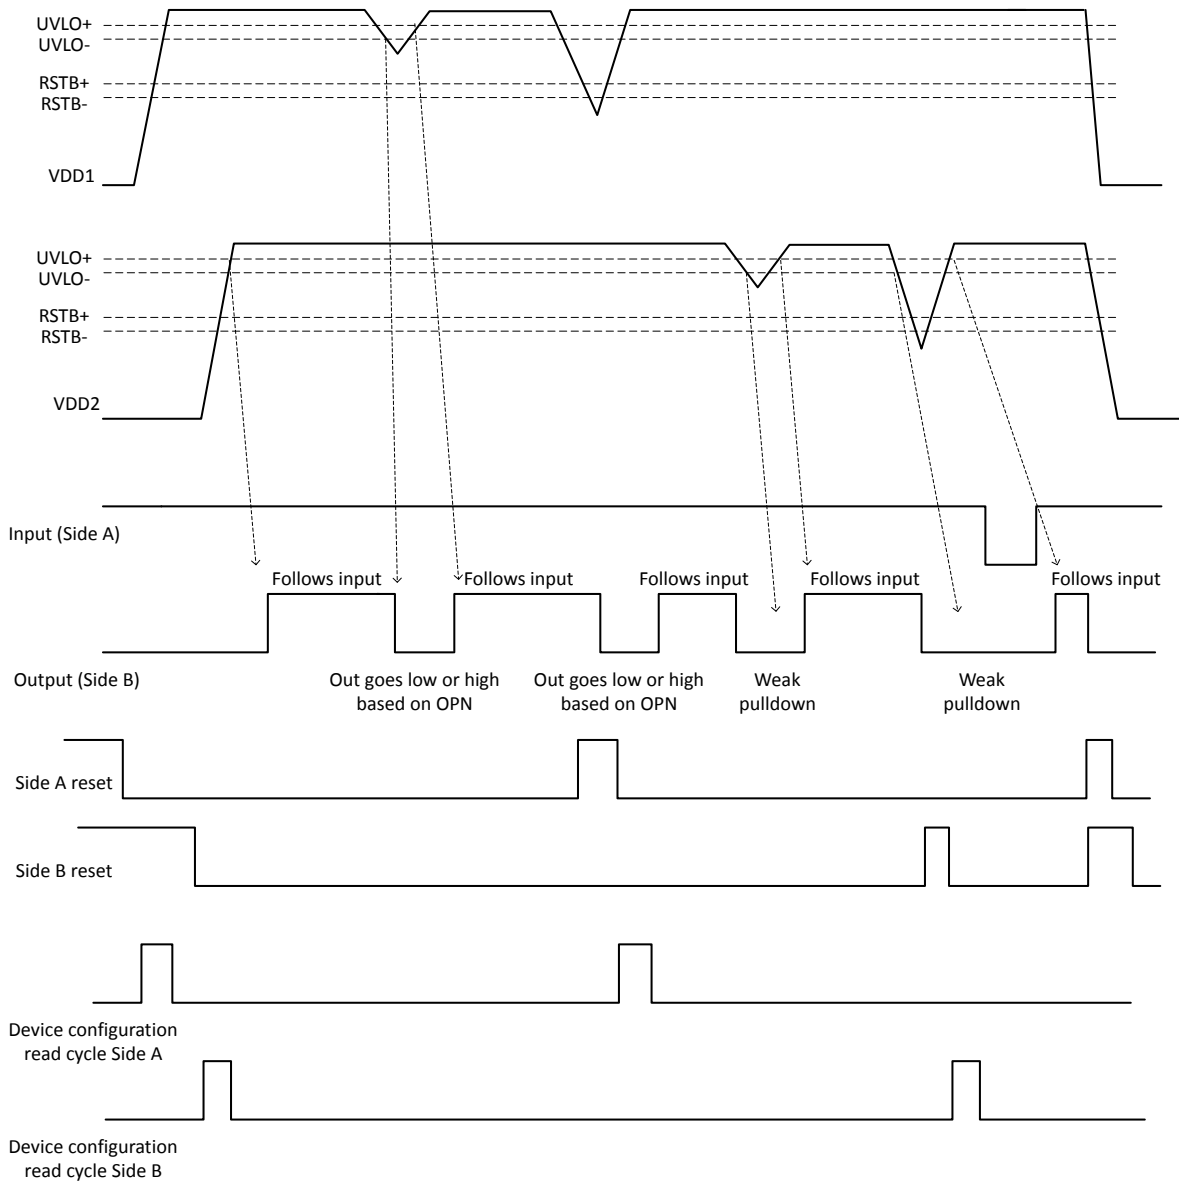

Figure 3.1. Device Behavior during Startup
Device behavior during start-up, normal operation, and shutdown is shown in Figure 3.1 Device Behavior during Startup on page 11, where UVLO+ and UVLO– are the respective positive-going and negative-going thresholds. Refer to the following tables to determine outputs when power supply (VDD) is not present and for logic conditions when enable pins are used.
4. “Powered” state (P) is defined as 2.25 V < VDD < 5.5 V.
5. “Unpowered” state (UP) is defined as VDD < 2.25V.
7. UD =Undetermined. Refer to Figure 3.1 Device Behavior during Startup on page 11, the start-up time from unpowered state, below 1.7 V (RSTb) threshold to powered state, is 0.3 ms. If VDDO only dips below 2.1 V (VDDOK level in Figure 3.1) but stays above RSTb level, the start-up time is 1 μs.
3. "Powered" state (P) is defined as 2.25 V < VDD < 5.5 V.
4. "Unpowered" state (UP) is defined as VDD < 2.25 V.
5. UD = Undetermined. Refer to Figure 3.1 Device Behavior during Startup on page 11, the start-up time from unpowered state, below 1.7 V (RSTB) threshold to powered state, is 0.3 ms. If VDDO only dips below 2.1 V (VDDOK level in Figure 3.1) but stays above RSTB level, the start-up time is 1 μs.